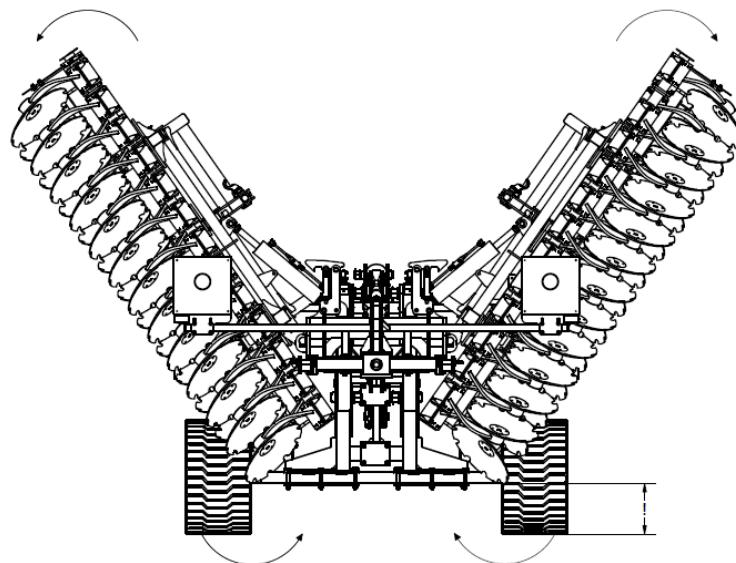

Figure 11a Machine opening sequence: opening the machine with special attention to the height of the arm ends from the ground.
- When opening the machine's wing arms, ensure that the ends of the arms are at a sufficient height to prevent them from snagging on the ground (Fig. 11a).